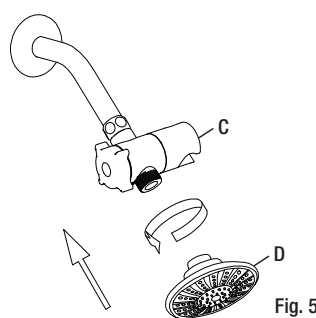

Fig. 5
3. Connect the shower head (D) to the 3-way valve (C), see Fig. 5.